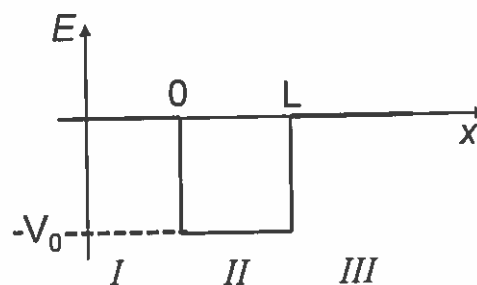

Figure 2.1
2. A beam of electrons, travelling along the x -axis in the positive x direction, is incident on the potential well shown in Figure 2.1 below.